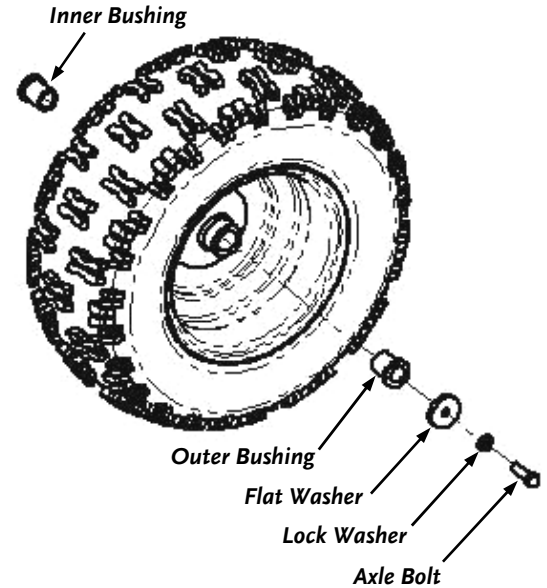

Figure 25
1. With the weight of the machine on the wheel, loosen (counterclockwise) the Axle Bolt (**Figure 25**) with a 9/16" Wrench or Socket.